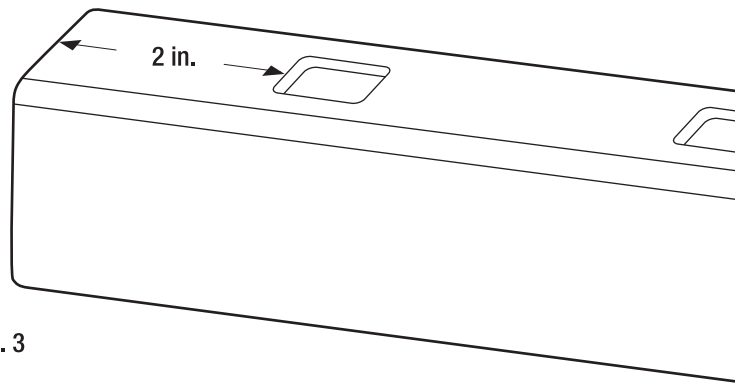

Fig. 3
- Transfer the measurement to the top rail, making sure that the distance from the end of the rail to the first baluster slot is equal on both ends of the rail. The minimum distance from a post to first baluster slot is 2 in. for clearance from the brackets. (See Fig. 3)